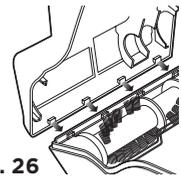

Fig. 26
- 3 To reassemble, insert the tabs on the front edge of the brushroll housing into the matching holes in the top half and tilt it back down until it clicks into place. **(Fig. 26)**